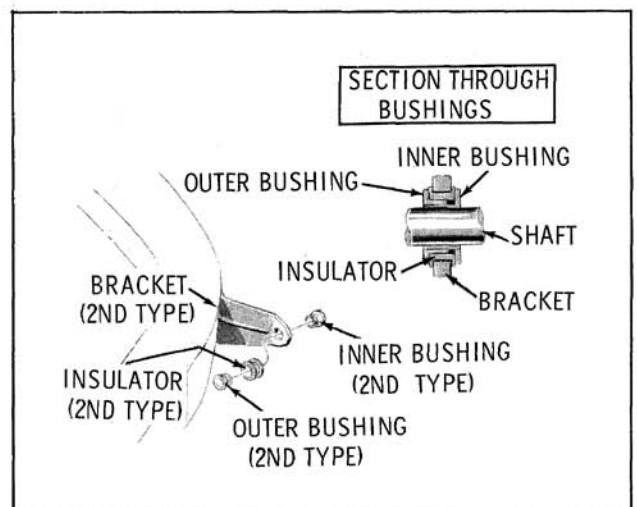

Fig. 7-30 Linkage Attachment (2nd Type)
The shift linkage is attached as shown in Fig. 7-30. To adjust, proceed as follows:
3. Install linkage as shown in Fig. 7-30.